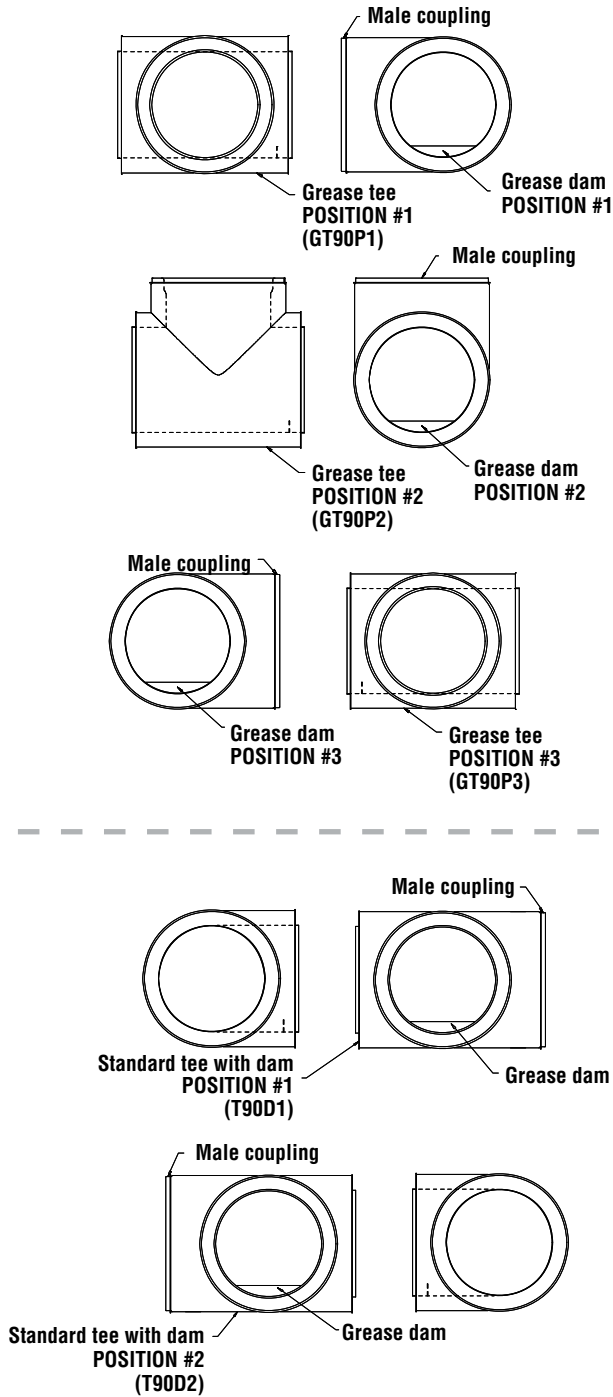

Figure 71 - Grease tees
The Grease Tee 90 and the standard Tee 90 with a dam are used to provide access for clean-out to comply with NFPA 96 requirements. They are equipped with a 1-1/2" (38) high grease dam at the access port. The access port must be closed with a tee cap (TC). The location of the access port in the tee is dependent on the orientation of the tee in the final installation. Access port location is coded as shown in **Figure 71**.